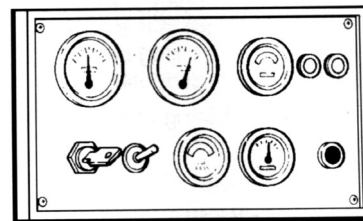

FIG. 14
- Observe gauges, instruments, and warning lights to ensure that they are functioning and their readings are within the normal operating range. (FIG. 14)